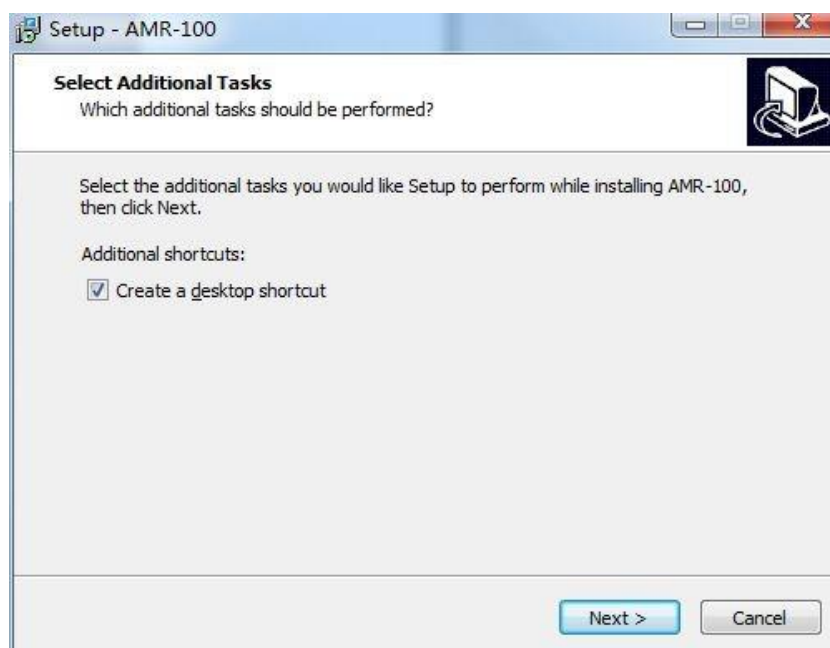

Fig 3
3. Please choose "Create a desktop shortcut" if needed, as Fig 3.